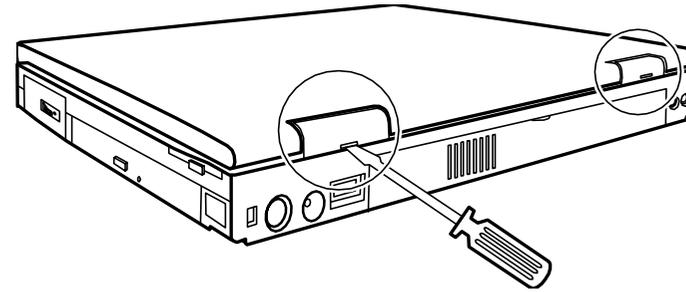

Figure 5-23. Removing the Hinge Covers
1. Remove the hinge cover by inserting a flat screwdriver to the rear of the cover and pry the cover out. Repeat the same with the other hinge cover. (Refer to Figure 5-23).
3. Replace the two hinge covers. (Refer to Figure 5-23 earlier.)